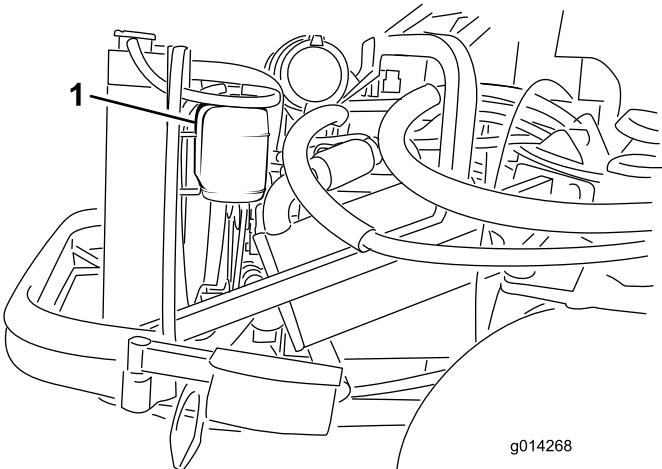

Figure 34
1. Check the level of the coolant in the expansion tank (Figure 34). The coolant level should be between the marks on the side of the tank.